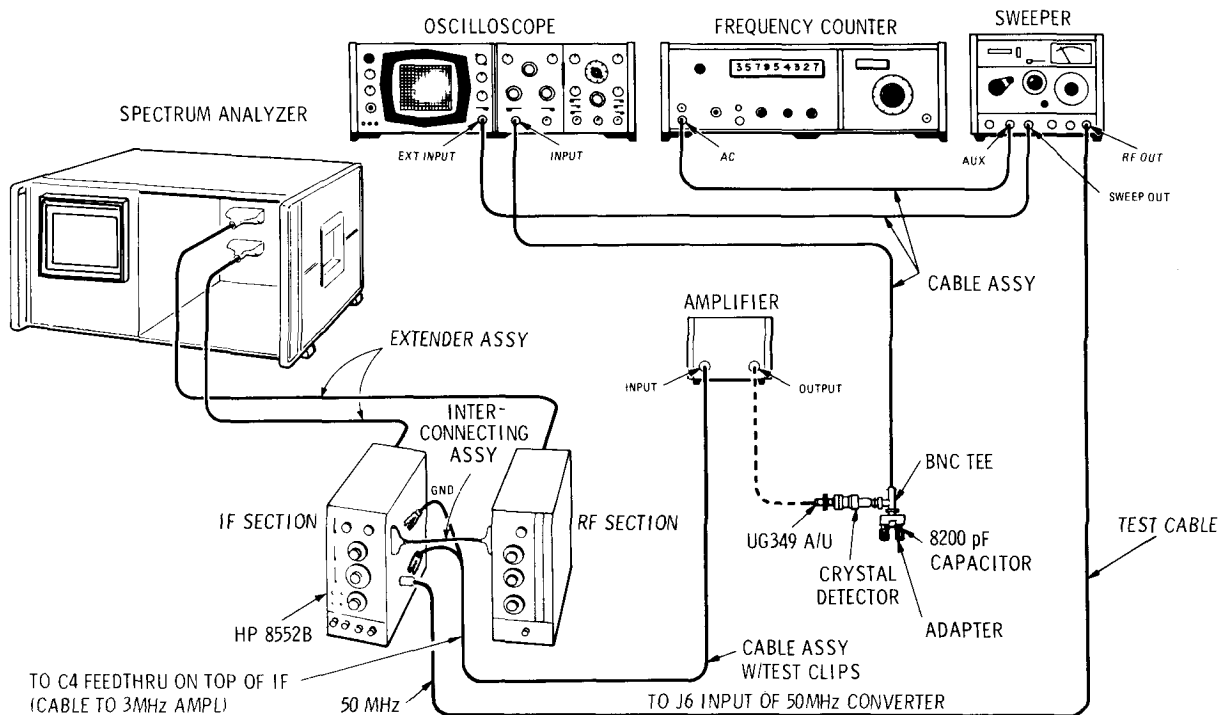

Figure 5-12. 50 MHz IF Bandpass Adjustment Test Setup
1. Connect the test setup as shown in Figure 5-12. Make the following control settings: